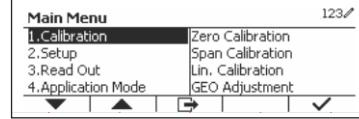

Figure 3
1. Long press the **User Menu** button to enter main menu. Press the softkey corresponding to the **✓** icon to enter the Calibration submenu. (See Figure 3)